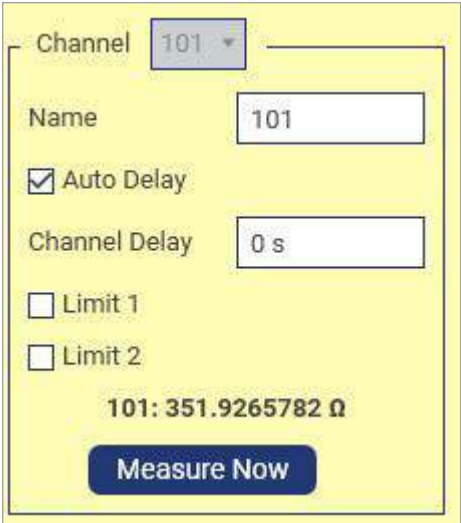

Figure 4: Measuring the device in its unstrained state will give us one of our known factors to be used in computing strain.
Choose the **2-Wire Resistance** option from the Function list control then select the channel (101) to which your strain gauge is connected. In the "Channel" group area (see **Figure 4**), click on the **Measure Now** button to obtain the strain gauge's quiescent resistance value.